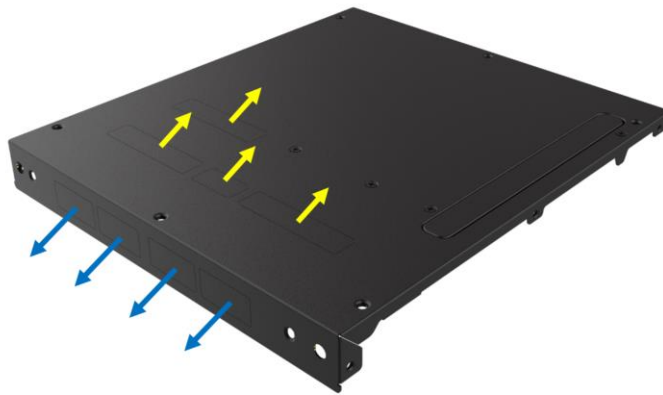

Figure 3-6: Remove the Knockout
- Step 3:** Remove the knockouts from the bottom cover, four on the side for LAN ports and four on the top for heat sinks (Figure 3-6).